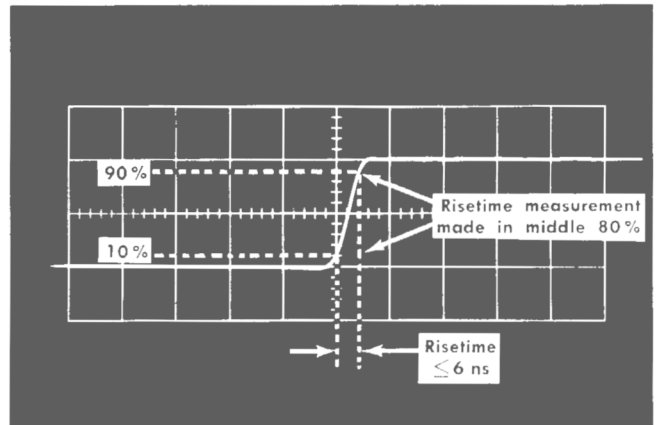

Fig. 13. Risetime waveform, step 6. Sweep rate 10 ns/cm.
- The equipment setup is continued from step 5. A typical waveform appears in Fig. 13.
- CHECK—Risetime. Measure the risetime of the square wave between the 10 and 90% points as shown in Fig. 13. Use the Oscilloscope Focus, Intensity, Astigmatism and Horizontal Position controls and the Calibration Fixture Vertical Position control as necessary to set the trace for convenient measurement. Risetime should be 6 ns or less. Repeat step 5 if risetime requirement is not met.